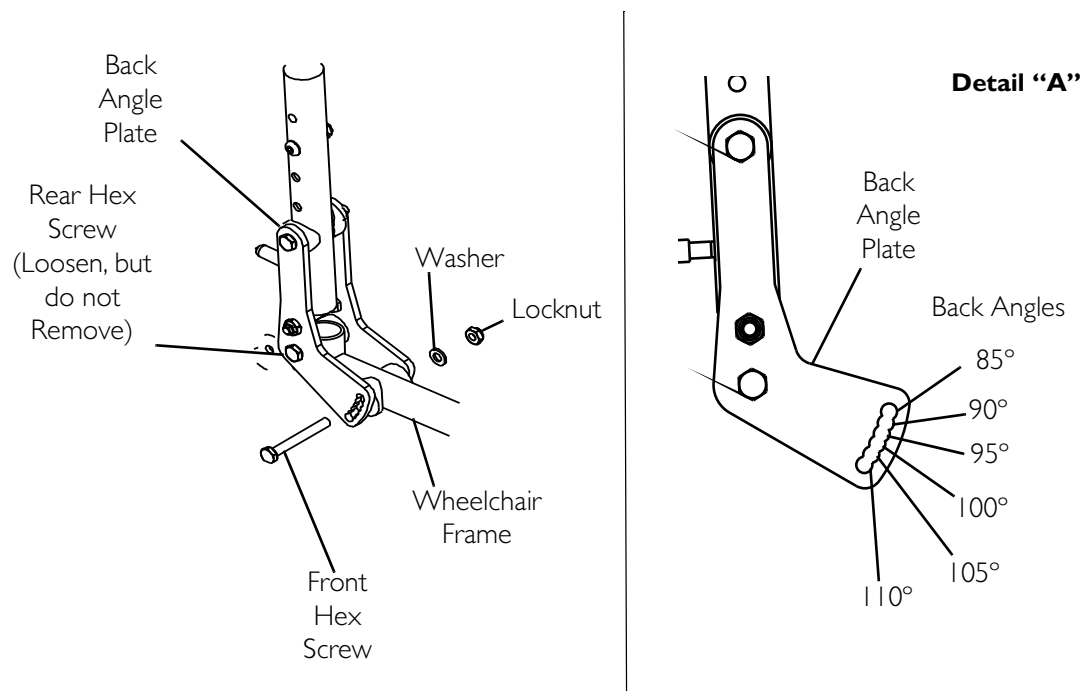

FIGURE 8.3 Changing the Back Angle
NOTE: For this procedure, refer to FIGURE 8.3 on page 44.
3. Position the back angle plate to one of six back angles. Refer to Detail "A" of FIGURE 8.3.
4. Reinstall the front hex screw and washer, securely tighten with locknut. Refer to FIGURE 8.3 for correct hardware orientation.